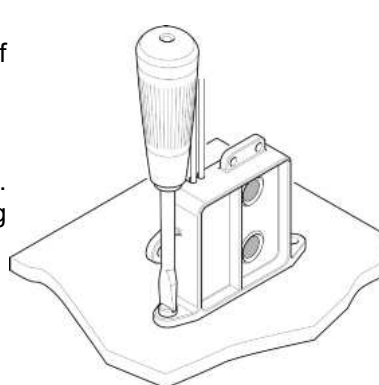

Fig 1 Using Switch Base
1. Mount the switch vertically as shown in fig. 1 (wires located uppermost). Locate the switch as close to the pump as possible to ensure the same water level.
1. Use switch base (Fig. 1) or mounting ears (Fig. 2) as a template to mark pilot holes in mounting block.